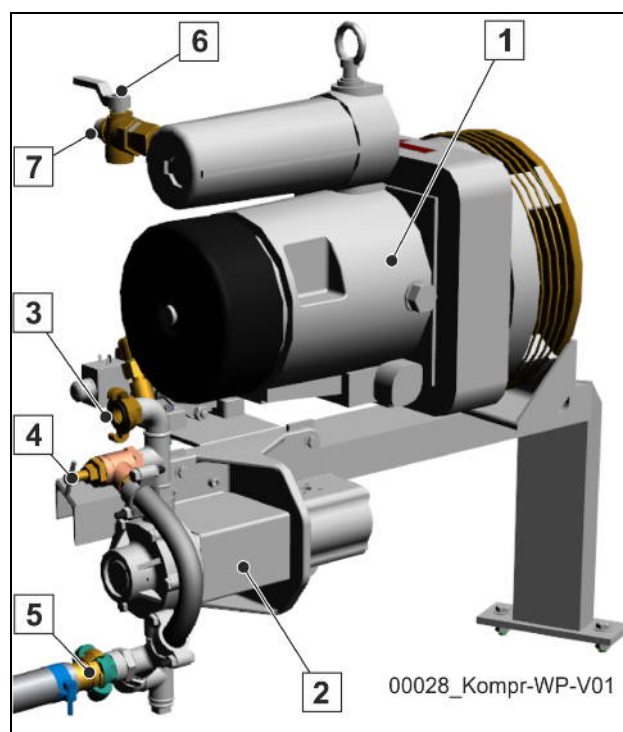

Fig. 1
- Set the operating speed of the diesel engine and regulate the air flow rate by opening and closing the air drain cock in the pressure line (e.g. 3; Fig. 1).